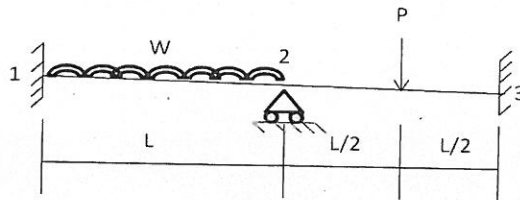

Fig.1
- Q.3. Analyse the beam shown in fig 1, by using FEM ( $w=10\text{kN/m}$ ,  $P=40\text{kN}$ ,  $L=4\text{m}$ ) 17